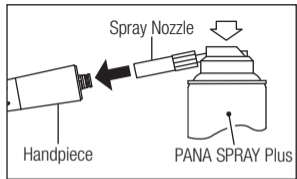

Fig. 10
- 3) Insert the Spray Nozzle in the rear of the handpiece. Hold the handpiece and spray for approximately 2-3 seconds. Continue until it runs clear from the handpiece head for at least 2 seconds. (Fig. 10)